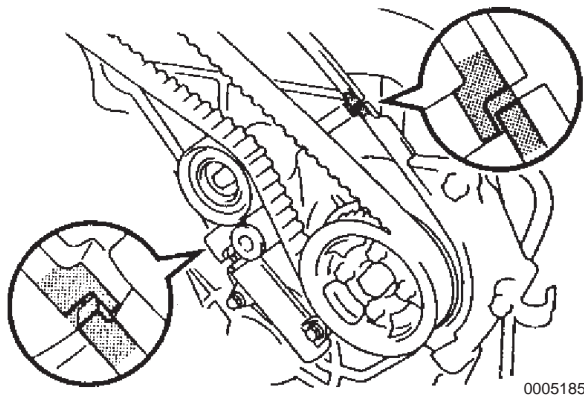

Figure 5-185
19. Apply seal packing (TOYOTA P/N 08826-00080 or equivalent) to the camshaft oil seal retainer and timing belt cover as shown in **Figure 5-185**.